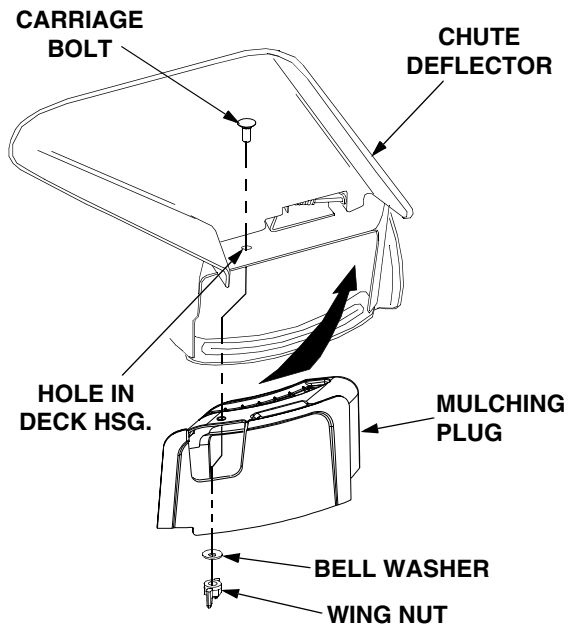

Figure 61
2. Lift the chute deflector upward and insert the mulching plug into the discharge opening of the deck (Refer to Figure 61).
3. Position the mulching plug so that its top hole aligns with the hole in the top of the deck housing. Install the carriage bolt through both surfaces and secure with the bell washer and wing nut (See Figure 61).